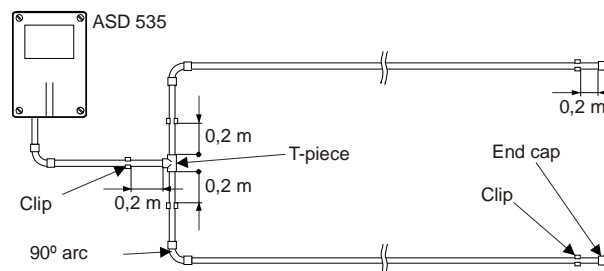

Fig. 24 90° bend, branching point
- Beginning at the branching points of the sampling pipe, a distance of at least 0.2 m must be maintained from the T-piece to the clips (Fig. 24).
- For changes of direction in space surveillance installations, it is advisable to use 90° bends rather than 90° angles (Fig. 24). See Sec. 4.4.2.